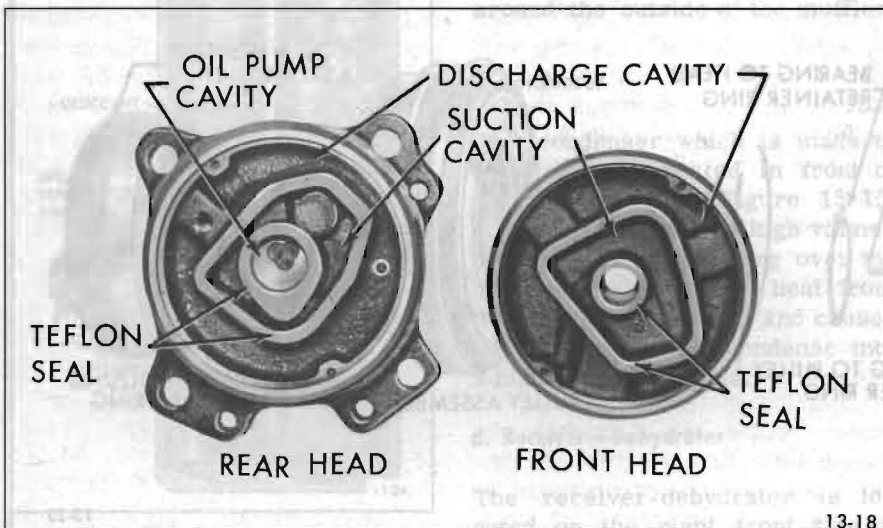

Figure 13-18—Compressor Front and Rear Heads
2. Front and Rear Heads--The front and rear heads (Figure 13-18) serve to channel the refrigerant into and out of the cylinder heads. The front head is divided into two separate passages and the rear head is divided into three separate passages. The outer passage on both the front and rear heads channels low pressure gas to the suction valve reeds. The middle passage on both front and rear heads channels high pressure gas to the discharge valve plate reeds. The inner passage on the rear head houses the oil pump inner and outer rotors. A teflon sealing material is bonded to the sealing edges separating the passages in the front and rear head. "O" rings are used to affect a seal between the mating edges of the heads and the shell. The front head suction and discharge passages are connected to the suction and discharge passages of the rear head by a discharge tube and suction passage in the body of the cylinder assembly. A screen located in the suction port of the rear head prevents foreign material from entering the circuit.